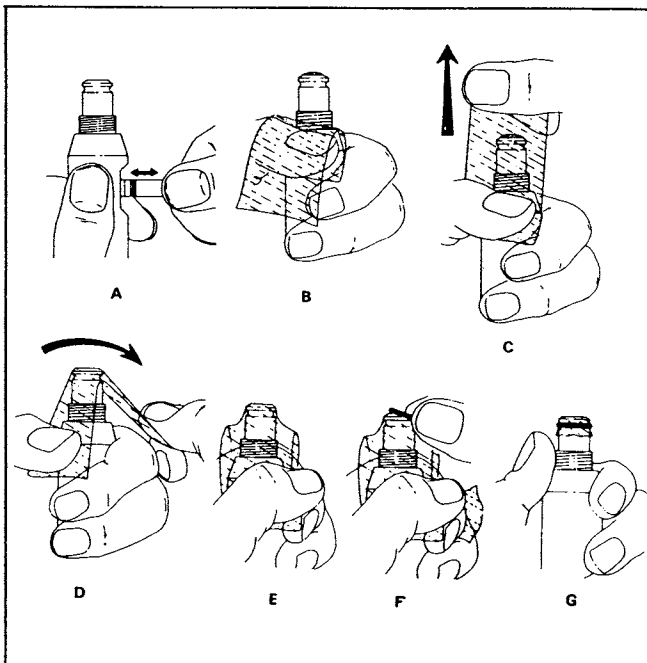

Figure 8. Membrane Application on the 5739, 5720A and 5750 Probes.
a. Grasp the probe in your left hand. (See the sketches in Figure 8.) When preparing the 5739 probe, the pressure compensating port should be to the right. Successively fill the sensor body with electrolyte while pumping the diaphragm with the eraser end of a pencil or a similar soft, blunt tool. Continue filling and pumping until no more air bubbles appear. When preparing the 5720A or 5750 probes, simply fill the sensor body until no more air bubbles appear.